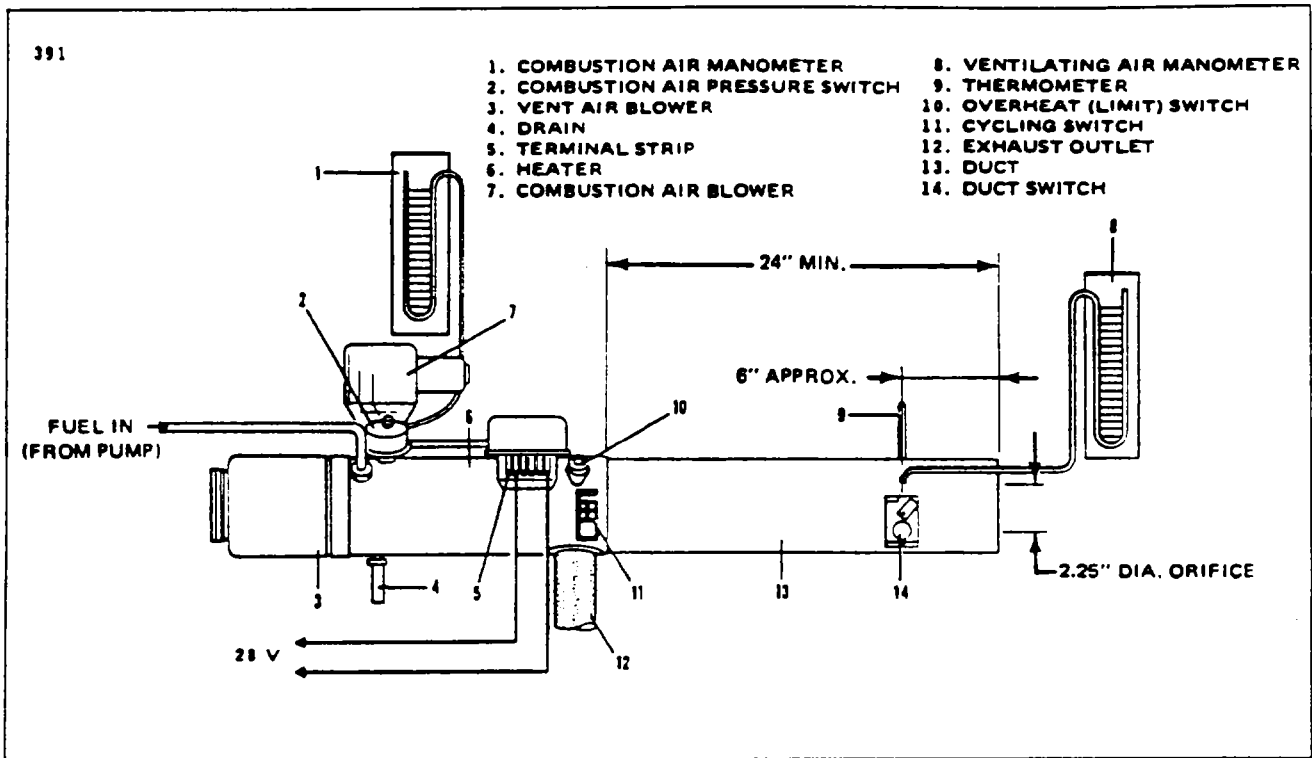

Figure 21-18. Suggested Setup for Heater Operation Test
EQUIPMENT REQUIRED. (Refer to Figure 21-18.)
6. A piece of duct to be attached to the downstream end of the heater. It should have a minimum length of 24 inches and the same diameter as the heater being tested. A 2.25 inch diameter orifice should be centrally located at the outlet end. An aperture should be provided for the thermometer and duct switch and a static tap should be attached as shown in Figure 21-18.
OPERATIONAL TEST. (Refer to Figures 21-18 or 21-19.)
1. Connect the heater to the test setup as shown in Figure 21-18. Make sure the combustion air blower is mounted securely and that the heater is clamped to its supporting stand.
2. Insert the duct switch in the sheet metal extension tube at the location shown in Figure 21-18.